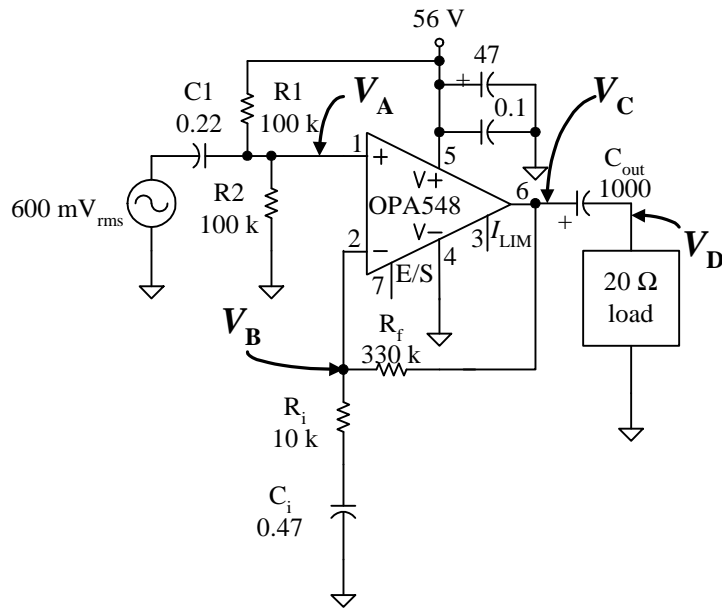

Figure 4-25 Schematic for Problem 4-1
4-1 For the circuit in Figure 4-25, calculate the dc and rms values of each of the four indicated voltages.
- 4-2 Explain the purpose of each of the following components in Figure 4-25: C_1 , R_1 , R_2 , C_i , and C_{out}